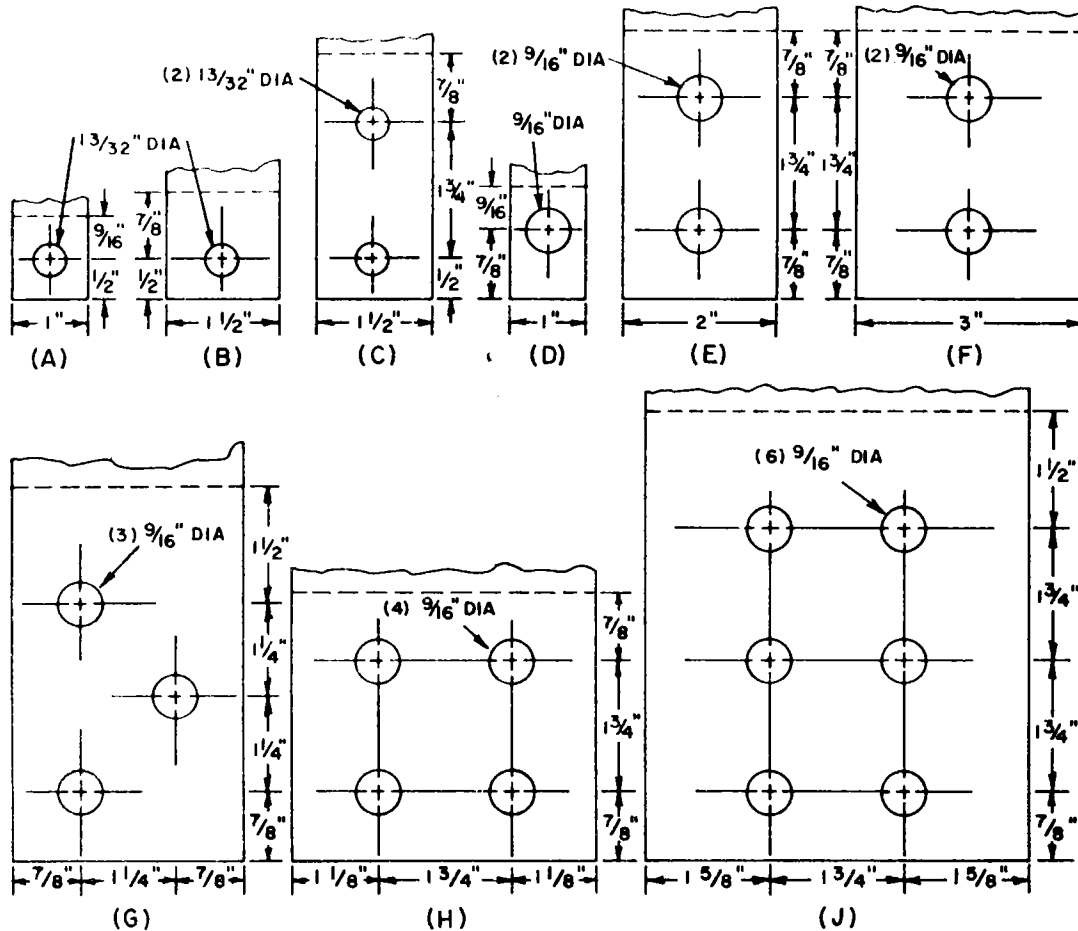

Fig. 1. Terminal pad dimensions
7. Obtain bolts and washers as required for the various types. The size of bolt holes and the number of holes per terminal pad can be determined by referring to Table IV and Fig. 1.